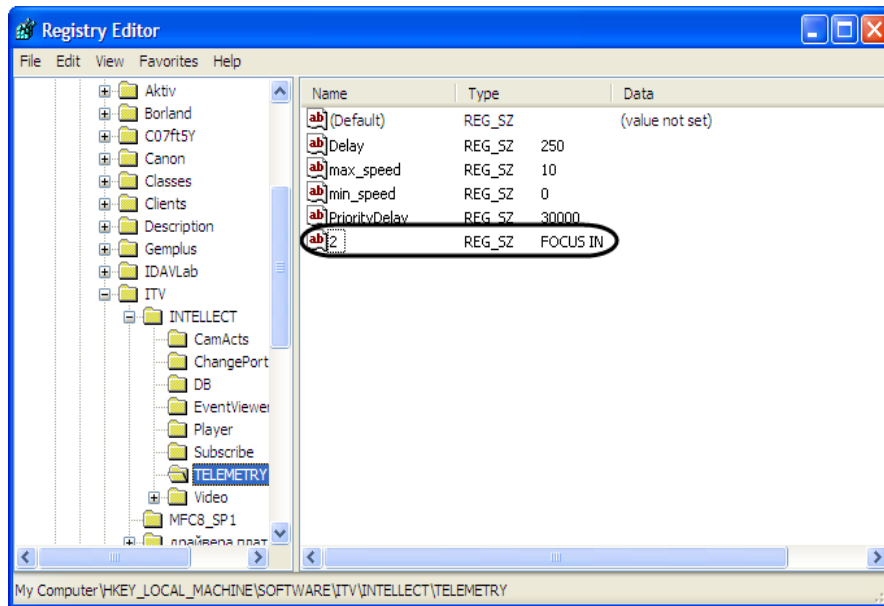

Figure 3.4-17 An example of editing the Windows OS registry for assigning the commands to joystick push-buttons
3. Assign the name to the line parameter, identical to the number of the joystick push-button in the Windows OS (Figure 3.4-17).